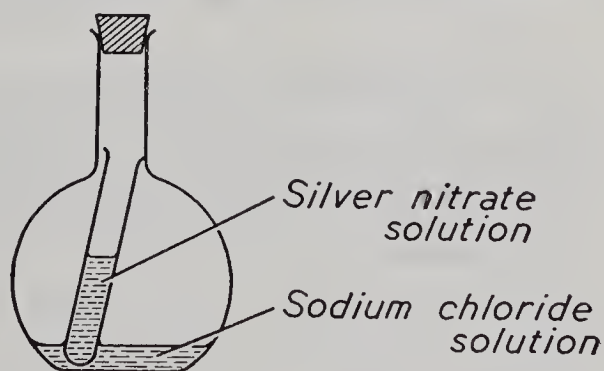

Fig. 45.
1. The apparatus used consists of a flask and a small test-tube which will rest inside the flask, but cannot fall over (Fig. 45).